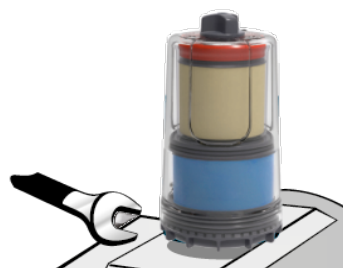

Fig. 16.
- Screw in the Single Point Lubricator hand-tight, use an adapter if necessary „Fig. 16.“.
- Tighten the connection thread, using a hexagonal wrench „Fig. 16.“.